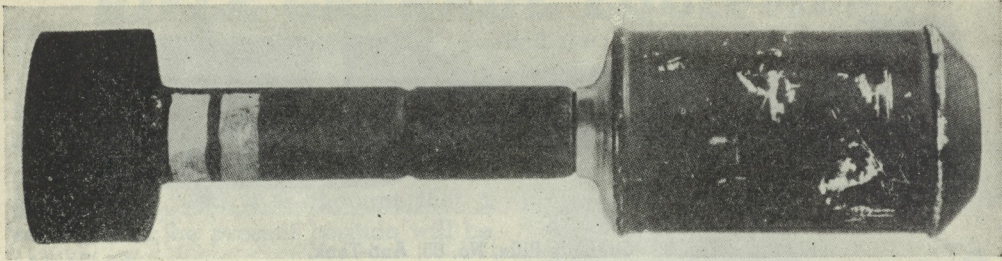

Fig. 5: Grenade Rifle, No. 87, W.P.
No. 87 Smoke Rifle Grenade (Fig. 5): (1) The body of this grenade is a shortened No. 80 smoke hand grenade holding 9 oz. of white phosphorus as against 11 oz. Its screening capacity should be midway between the Nos. 77 and 80 grenades. It is fused with the instantaneous fuse of the No. 85 grenade (No. 430). It is hoped that this grenade, in addition to its screening capabilities, will prove efficacious in neutralizing field works. Clear fields of fire will be essential, however, as the fuse will premature if the grenade passes through dense vegetation. It weighs 1 lb. 4 $\frac{3}{4}$ ozs. Acceptance trials are pending.